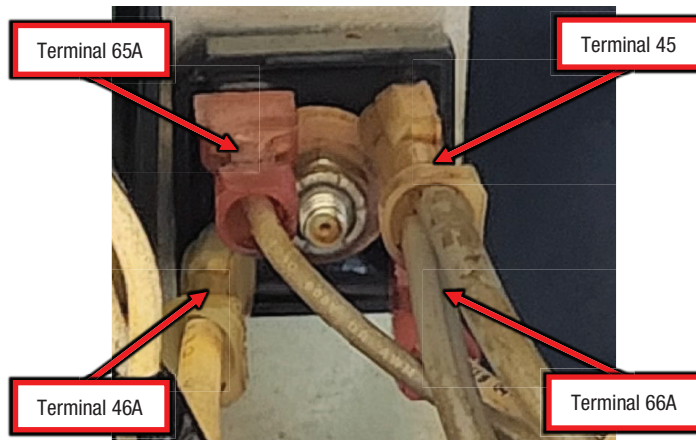

Figure F.3
A.3. Perform the static measurements in Test Table 1, refer to Figure F.3 for test point locations. NOTE: MEASUREMENTS ARE MADE ON D2 TERMINALS WITH THE LEADS REMOVED.